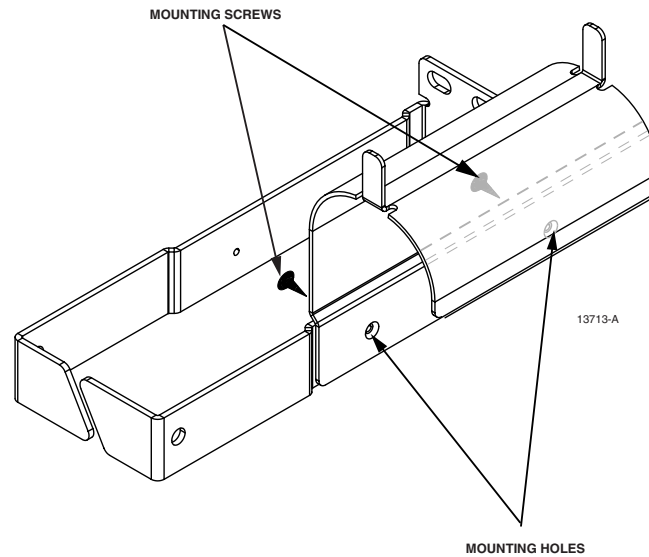

Figure 12. Bend Radius Limiter Mounting Screws
3. Place the removed vertical/limiter assembly on a stable surface and remove the two mounting screws that secure the bend radius limiter to the vertical cable guide (Figure 12).